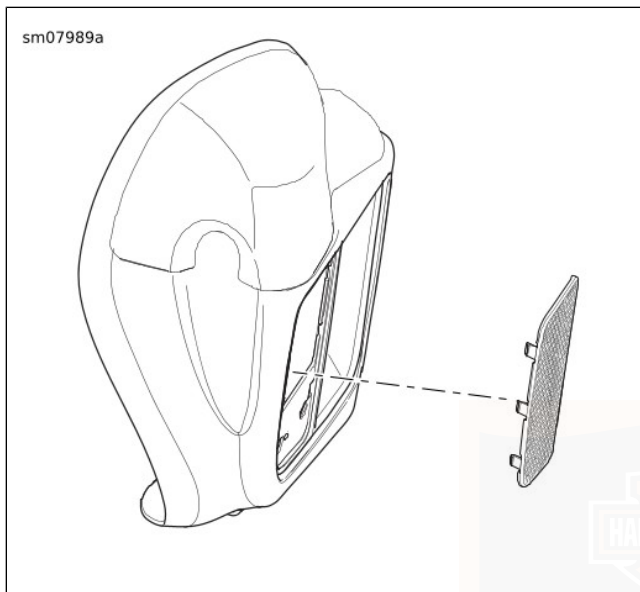

Figure 57. Lower Fairing Grille Panel
1. See Figure 57. Remove outer grille from lower fairing.